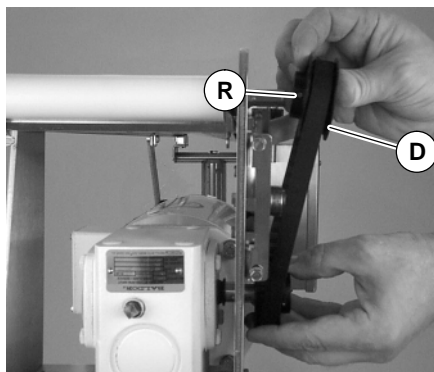

Figure 18
- Remove timing belt (C).
**NOTE:** If timing belt does not slide over pulley flange, loosen driven pulley set screws (R of Figure 18) and remove pulley with belt. For re-installation, see steps 4 and 5 on page 7.